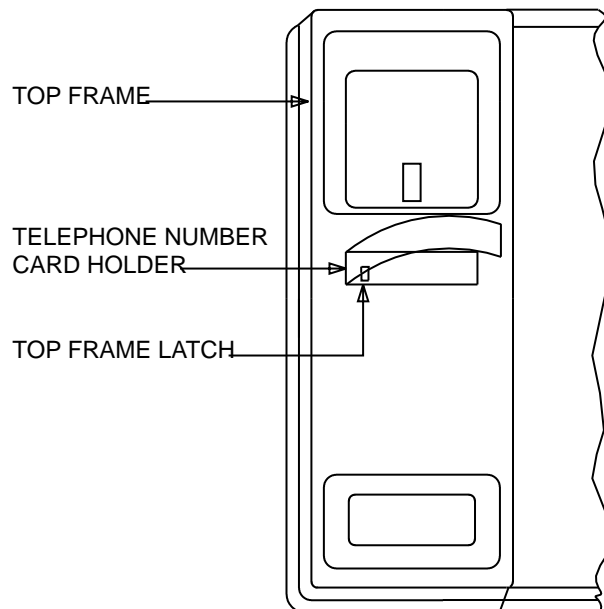

FIGURE 6-10. 7505 and 7506 Telephone Number Card, Top Frame, and Top Frame Latch
2. Remove the telephone number card holder by unfolding a paper clip, inserting it in the number card holder hole, and applying pressure toward the other end of the holder, exposing the top frame latch. See Figure 6-10.